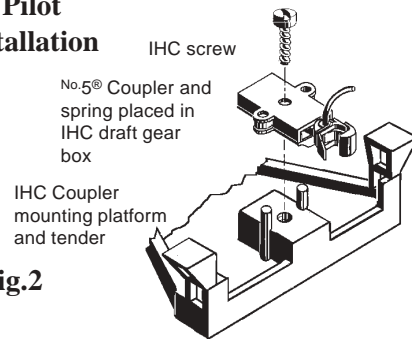

Fig.2
7. For tender, turn the tender upside down. Remove the existing screw, IHC draft gear box, coupler and lid. See Fig.2.